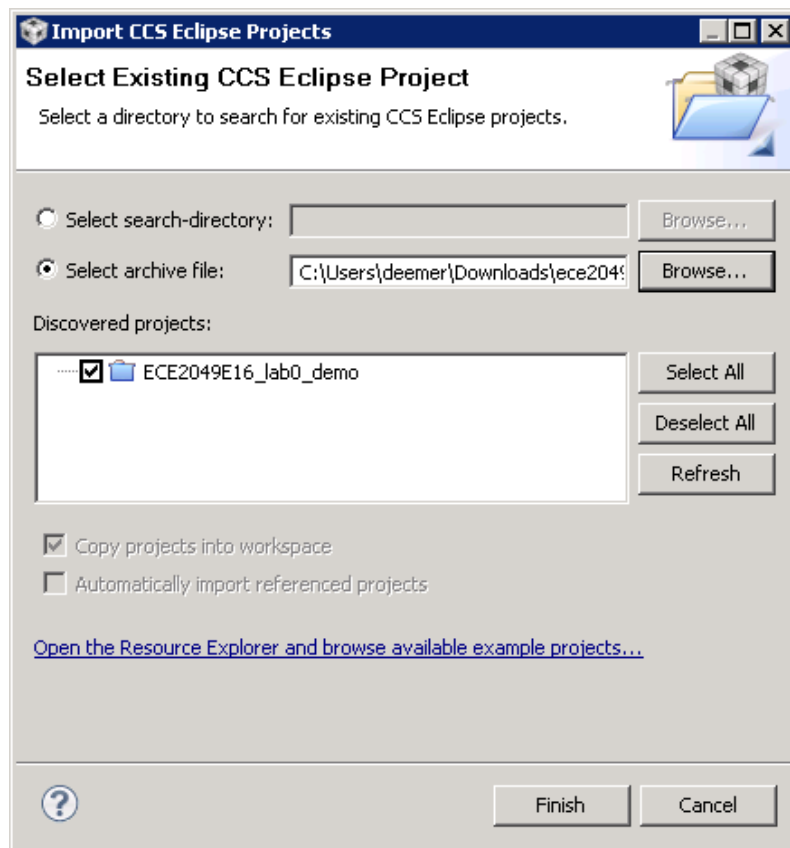

Figure 9: Importing the demo project
20. Download the **Lab 0 template** from the course website (ece2049e17_demo_template.zip). Back in CCS, if you still have a debug session running, return to Edit perspective by clicking the **Stop** button in the step controls. Then, in the **Project** menu, select **Import Existing CCS Eclipse Project**, which will open the dialog shown in Figure 9.
21. As shown in Figure 9, choose “Select archive file” and browse to the zip file for the demo project you just downloaded. CCS should find the project in the archive file and display it in the pane. Click **Finish** to import the project.